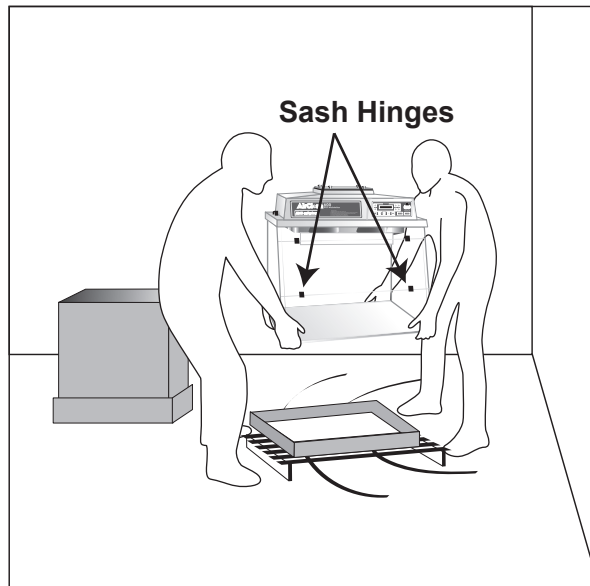

Figure 3, Lifting the workstation properly.
- 7) With the help of a co-worker, lift the workstation out of the bottom tray of the box. Make sure to lift from the bottom of the workstation. See figure 3.